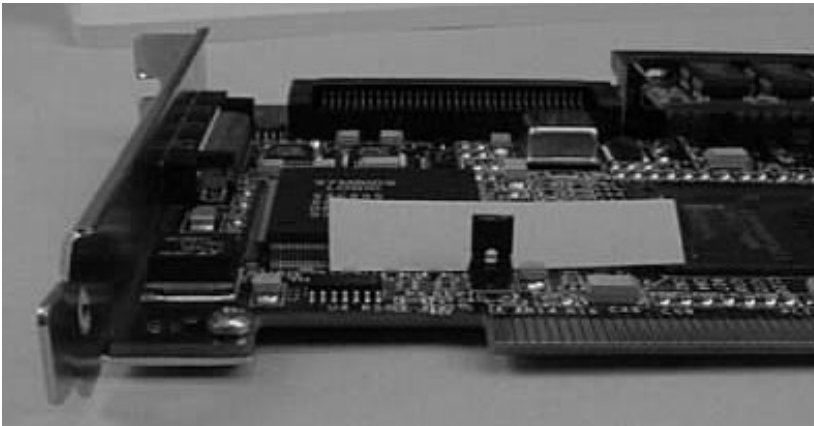

Figure 2-19. Install Jumper 10 (JP10) on two pins, ON position
4. ___ Check Jumper 10 (JP10). If it is not on the jumper pins, install it to the ON position as shown in Figure 2-19.
4. If Jumper 10 (JP10) is not in place, install it (ON position), as shown in Figure 2-19, when using the AcceleRAID 150 with the SISL feature.